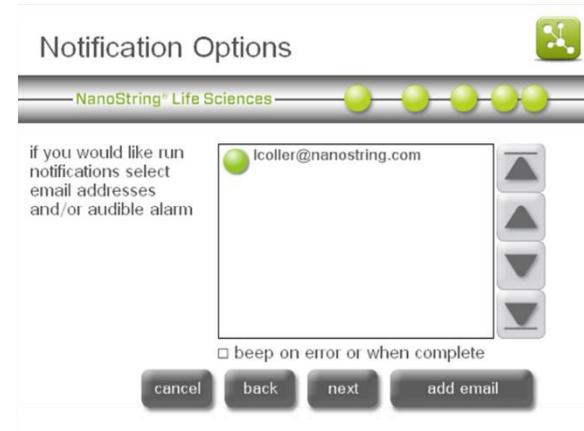

Figure 133: The ‘Notification Options’ screen
4. The ‘Notification Options’ screen will appear (**Figure 133**).